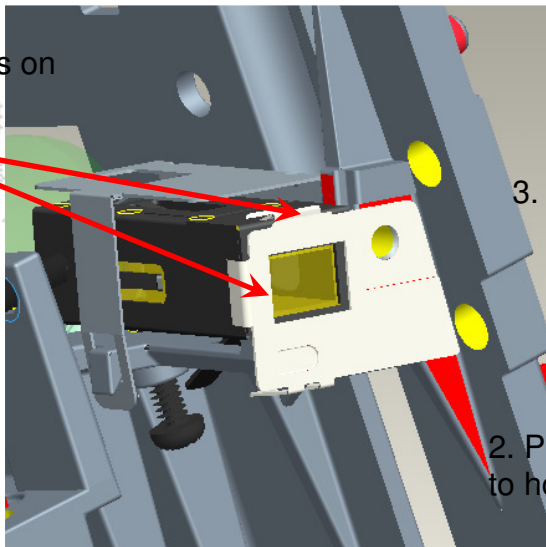
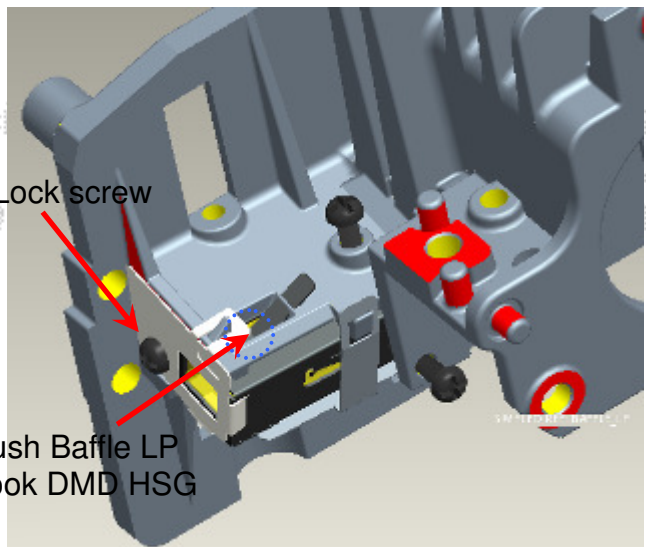

Fig. 1-5-1
Fig. 1-5-2
(7) Assembly "Baffle LP" first (Fig. 1-5-1) & push "Baffle LP" to hook DMD HSG, and then lock with screw well (Fig. 1-5-2).